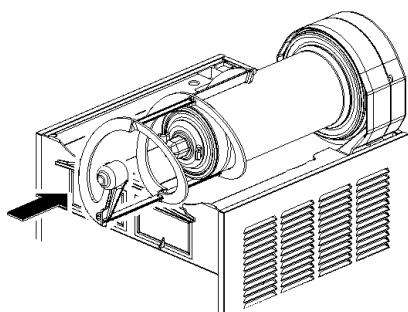

figure 14
- 6** Install the outer spiral. Slide it over the evaporator until its hexagonal front notch engages with the hexagonal exposed end of the magnetic outside rotor (see figure 14).